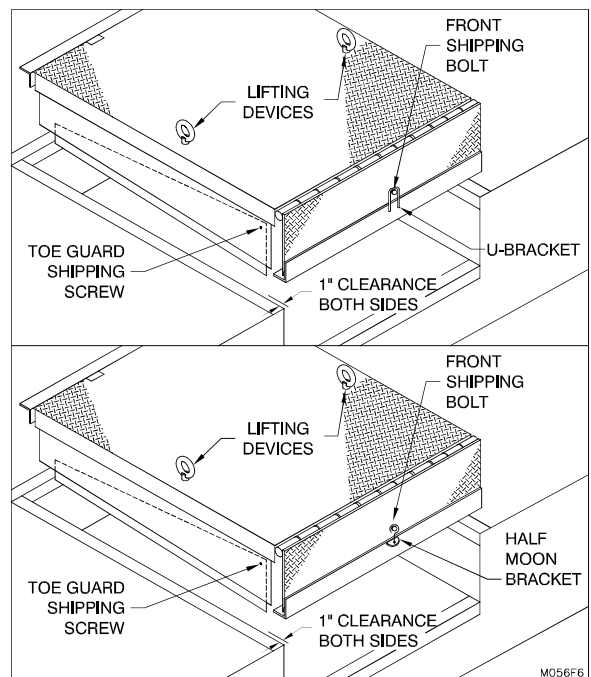

Figure 6: Hoist Leveler with Chain
1. Hoist leveler into pit with appropriate chain and lifting devices (See “Figure 6: Hoist Leveler with Chain” on page 9) and position the leveler into the pit opening. The dock leveler must not be lifted in any other manner.
3. Remove the lifting devices. Some units come equipped with a front U-Bracket and washer while others come equipped with a front Half Moon Bracket. If your unit comes with the front U-Bracket then **remove** the front shipping bolt and washer, then **remove** the U-bracket and clean up the remaining weld to ensure there is no interference with the lip operation. If your unit comes with the Half Moon Bracket, first **remove** the front shipping bolt and **remove** the Half Moon Bracket and clean up the remaining weld to ensure there is no interference with the lip operation. (“Figure 6: Hoist Leveler with Chain” on page 9)
6. Support the lower half of the toe guard and remove the self tapping screw which holds it in the shipping position. Carefully lower the toe guard and avoid pinch points. (“Figure 6: Hoist Leveler with Chain” on page 9)
2. ___ Hoist the leveler into the pit with chain using only the appropriate lifting devices ("Figure 6: Hoist Leveler with Chain" on page 9) while feeding the hydraulic hose through the 3" O.D. conduit from inside of the pit to the power unit.
Remove top and front shipping bolts. (Items 1 and 2 on "Figure 6: Hoist Leveler with Chain" on page 9)